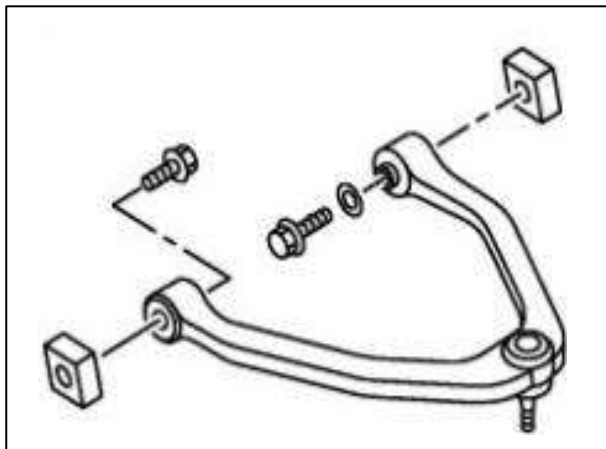

Figure 3
11. Remove the (2) two bolts that attach the OEM FUCA to the Chassis. *Figure 3.*